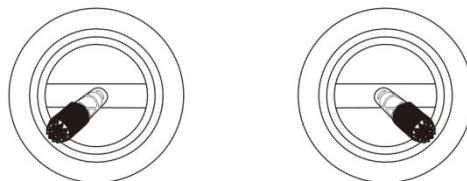

Figure 2-4 Lock
1. Perform the operation shown in Figure 2-4 to lock.